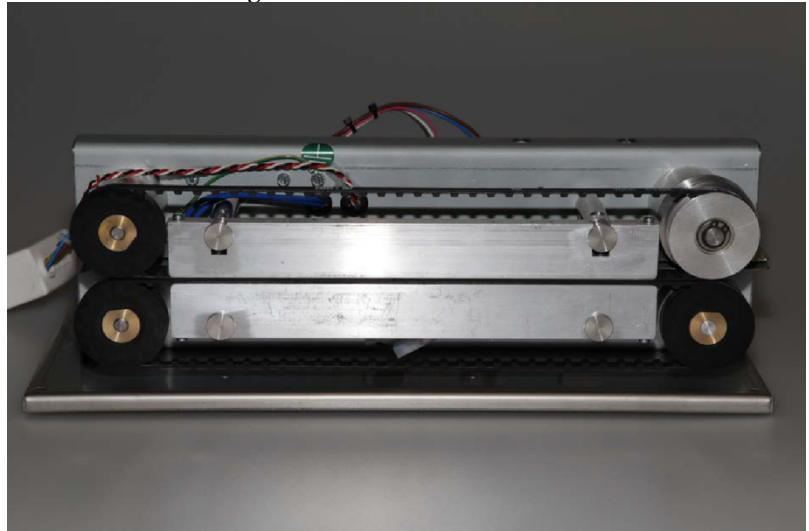

Figure 1
1. Remove the cover. **Fig. 1**